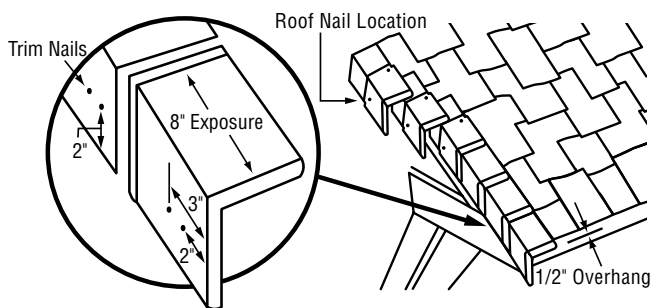

Figure 15-18: Mountain Ridge Rake edge application.
**Rake** – Ensure field shingles at rake edge are flush with the outer edge of the rake board. Apply Mountain Ridge shingles fitting them snugly against the rake board. Use two color-coordinated aluminum trim or paneling nails, to pin the material to the fascia at 2" (50 mm) up from bottom edge and 2" (50 mm) and 3" (75 mm) in from front edge of shingle. (See Figure 15-18).